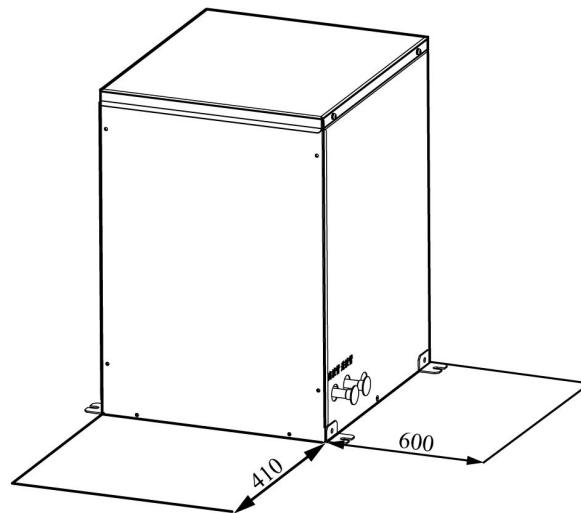

Fig. 2-16 Schematic diagram of installation and maintenance space for cryogenic components (unit: mm)
- The space requirements for installation and maintenance of XRow series inter-row air-conditioning pump cabinet units are shown in Figure 2-16.
- XRow air conditioner low-temperature components installation and maintenance space requirements, as shown in Figure 2-16.